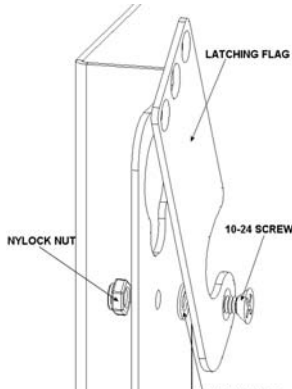

Figure 2
1. Attach latching flags to mount utilizing the two 10-24 Phillips head screw, nylon washers, and the nylock nuts (See Figure 2). Tighten until friction will hold the flag in place.